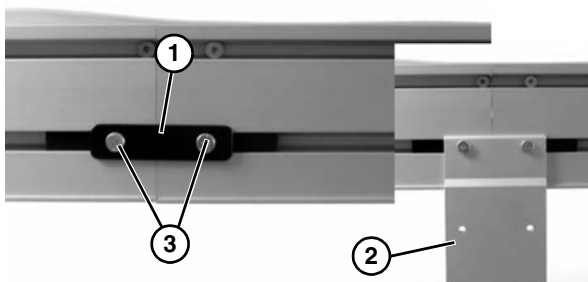

Figure 9
4. Join conveyor sections and install connector brackets (**Figure 9, item 1**) or connector/mount brackets (**Figure 9, item 2**) and screws (**Figure 9, item 3**) on both sides as indicated. Tighten screws to 60 in-lb (7 Nm).